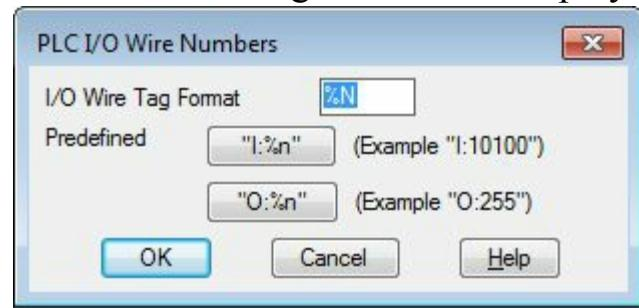

Figure-29. PLC I/O Wire Numbers dialog box
- Click on the **PLC I/O** tool from the **Wire Numbers** drop-down in the **Ribbon**. The **PLC I/O Wire Numbers** dialog box will be displayed as shown in Figure-29.